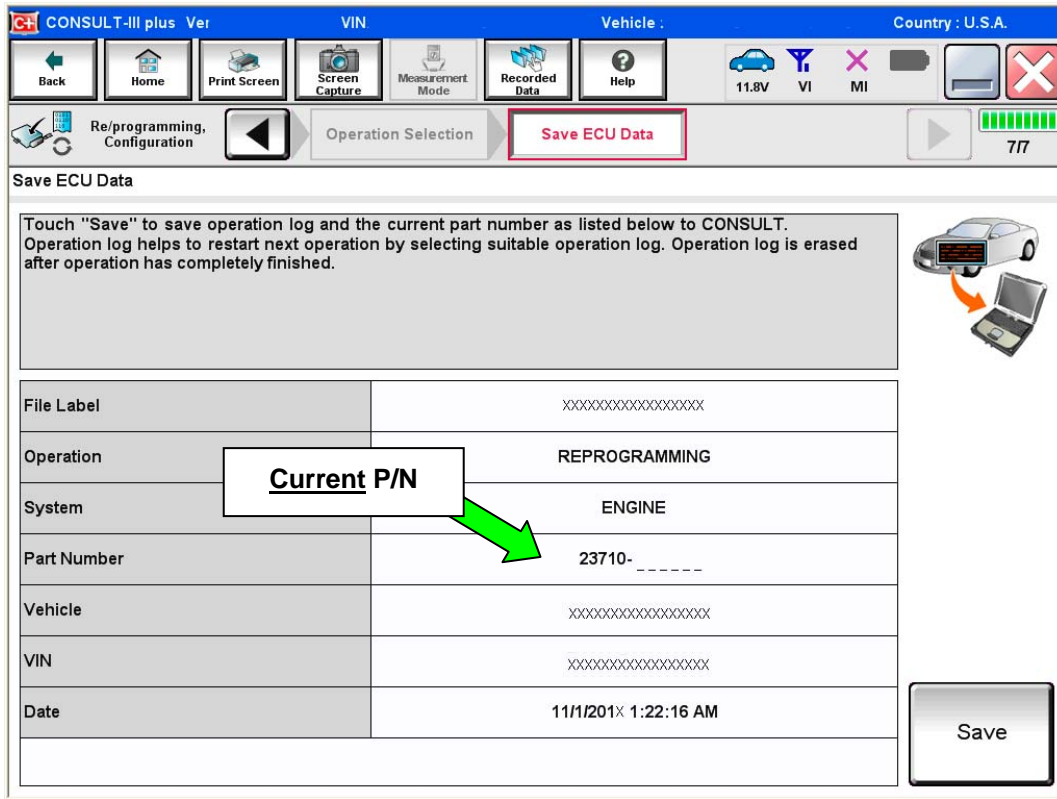

Figure 3
5. Follow the C-III plus on-screen instructions and navigate to the screen shown in Figure 3 on the next page.
6. When you get to the screen shown in Figure 3, confirm this bulletin applies as follows: